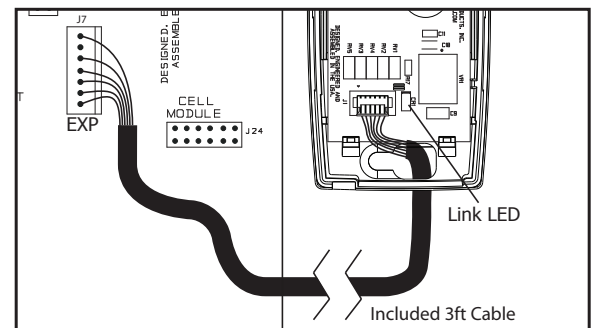

Figure 14: 763 to XR150/XR550 Series
1. The included cable connects to the 763 6-pin header. See Figure 14.
The 763 provides a Green link LED that displays constant to indicate network communication. See Figure 14 for LED location.